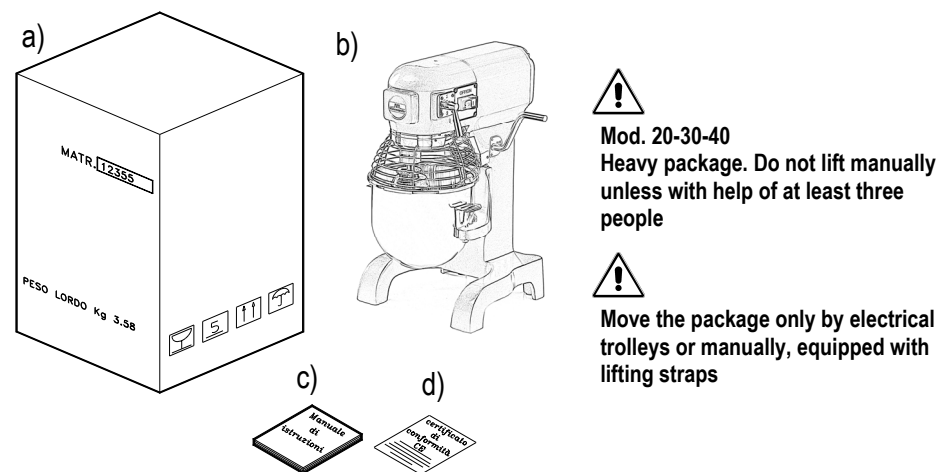

FIG. n.3 - Packaging description
3.1 - SHIPPING THE MACHINE (see FIG. n.3)
Upon receiving the package, if there are no external damages, open it to check that all the material is contained within (see FIG. n.3). Whereas, if, upon receiving the package it shows signs of mistreatments, impacts or falls, show the damage to the carrier and, within 3 days from delivery date, shown on the documents, draft a precise report on the damages sustained by the machine. **Do not turn the package upside down!!** When transporting, be sure that it is firmly held from the 4 fundamental points (keeping it parallel to the ground).